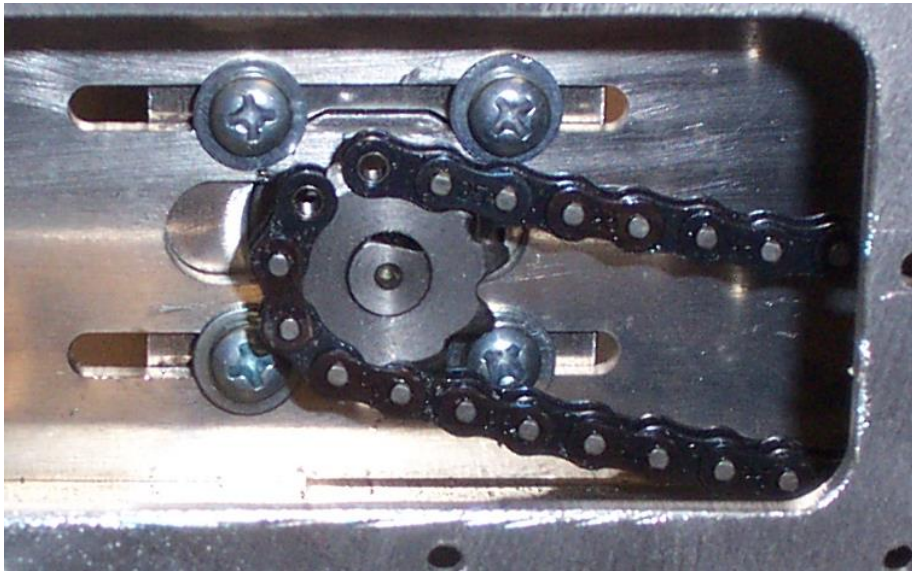

Figure 5: Chain layout
7. With the motor in its approximate middle position, measure out the required length of chain. Refer to Figure 5. You will want full links as shown in the figure to insert the master link through. You will be removing the outer cross-links.